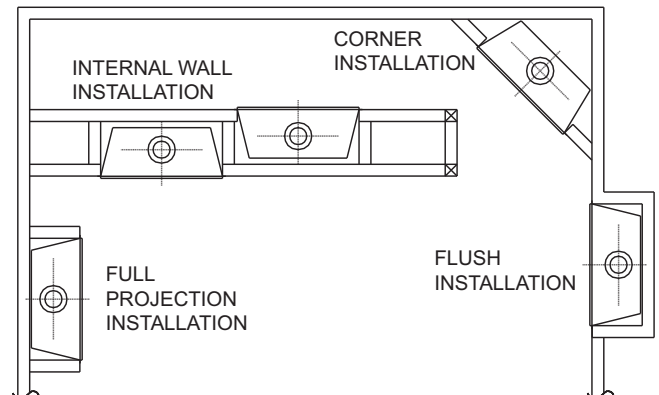

Figure 1 - Possible Locations for Installing Appliance
3. A location that avoids the cutting of joists or roof rafters will make installation easier. **Figure 1** shows a plan view of a few common locations.